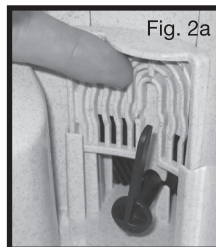

Fig. 2b
- 4) Remove the filter housing by gently pushing in on either side of the fountain where the curve meets the seam. Gently lift up. (See Fig. 2b & 2c)